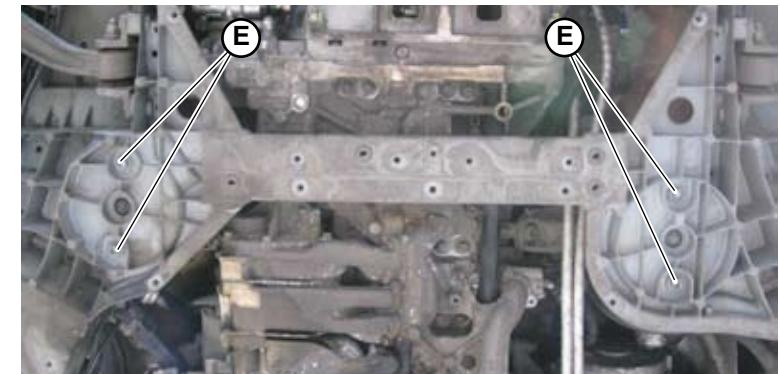

Fig.3
5. Tighten four screws (E-Fig.3) to secure the engine to the chassis.